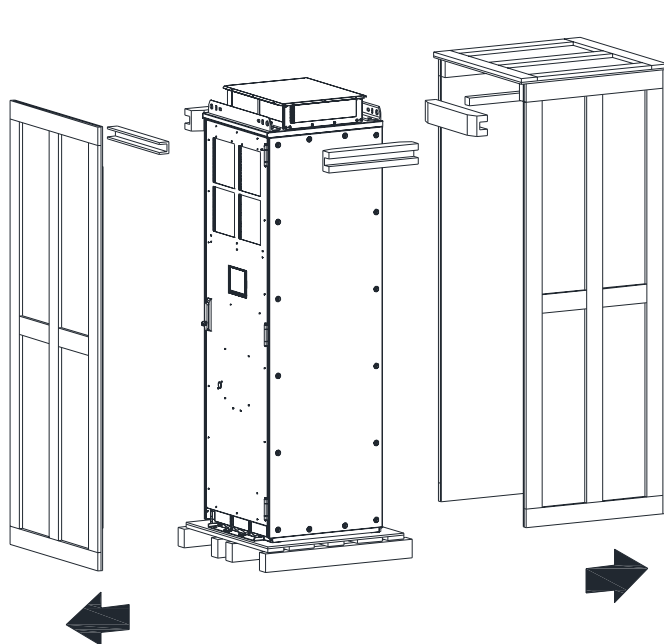
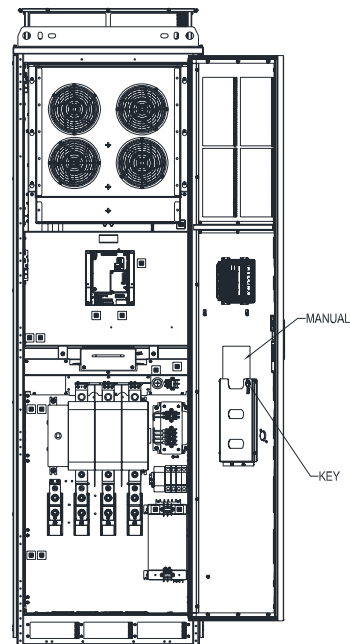

Figure 1-5
Figure 1-6
- 2) Remove the carton and 4 EPE from both sides. Note that the front of the cabinet is facing the lid of the carton (the direction as indicated by the elongated arrow) (see Figure 1-5 below). Open the outer lid of the model by the handle, and you will find the user manual and the keys for the outer lid attached to the inner side of the outer lid (see Figure 1-6 below). Please keep the keys safe as only 2 keys are included in each model, and the key cannot be replaced if lost.